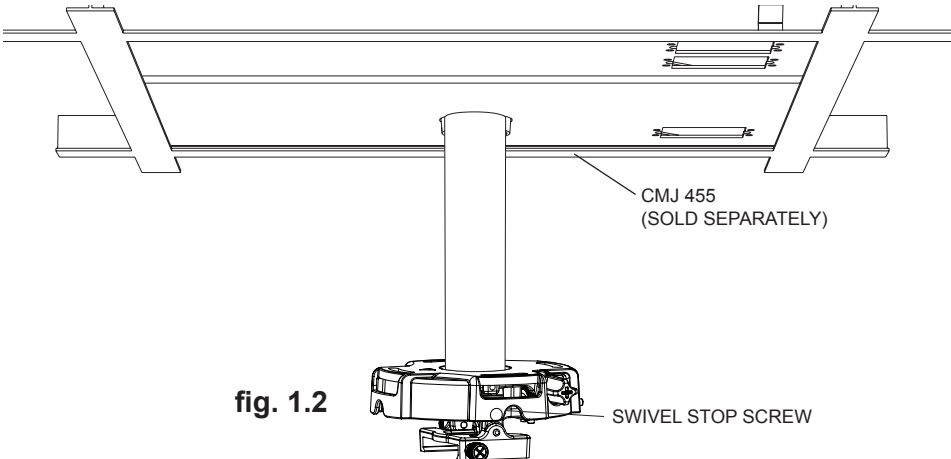

fig. 1.2
Tighten swivel stop screw against extension column, flush mount tube or reducer using 4 mm security allen wrench (I) as shown in **figure 1.2**.